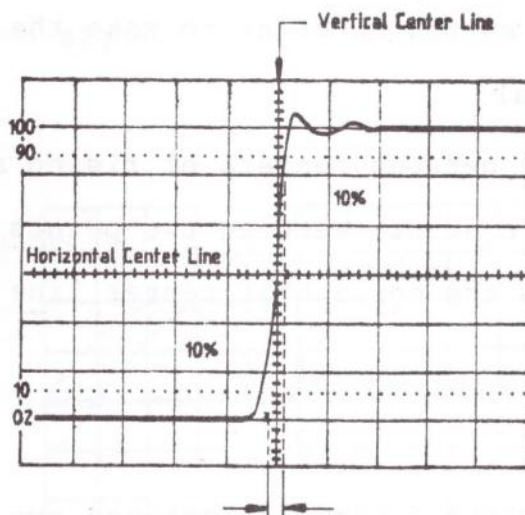

Fig 6-5 Rise(or fall) time measurement
3. Shift and set the lower 10% point of the waveform to the vertical center line of the graticule as shown by the dotted line in Fig 6-5. Read the distance T2 between the vertical center line and the point at which the rising (or falling) edge crosses the horizontal center line.